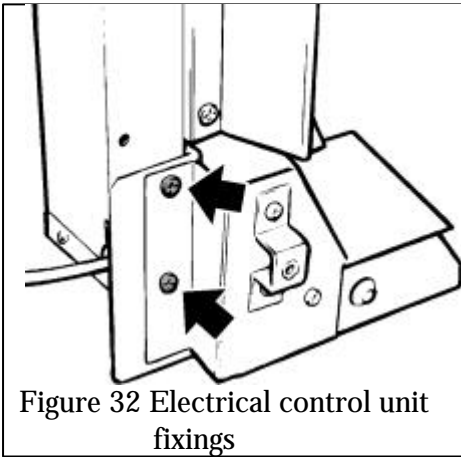

Figure 32 Electrical control unit fixings
**13.9.2** Detach the control unit from the convection box left side flange by removing two screws (see figure 32). Carefully pull the unit slightly forward.